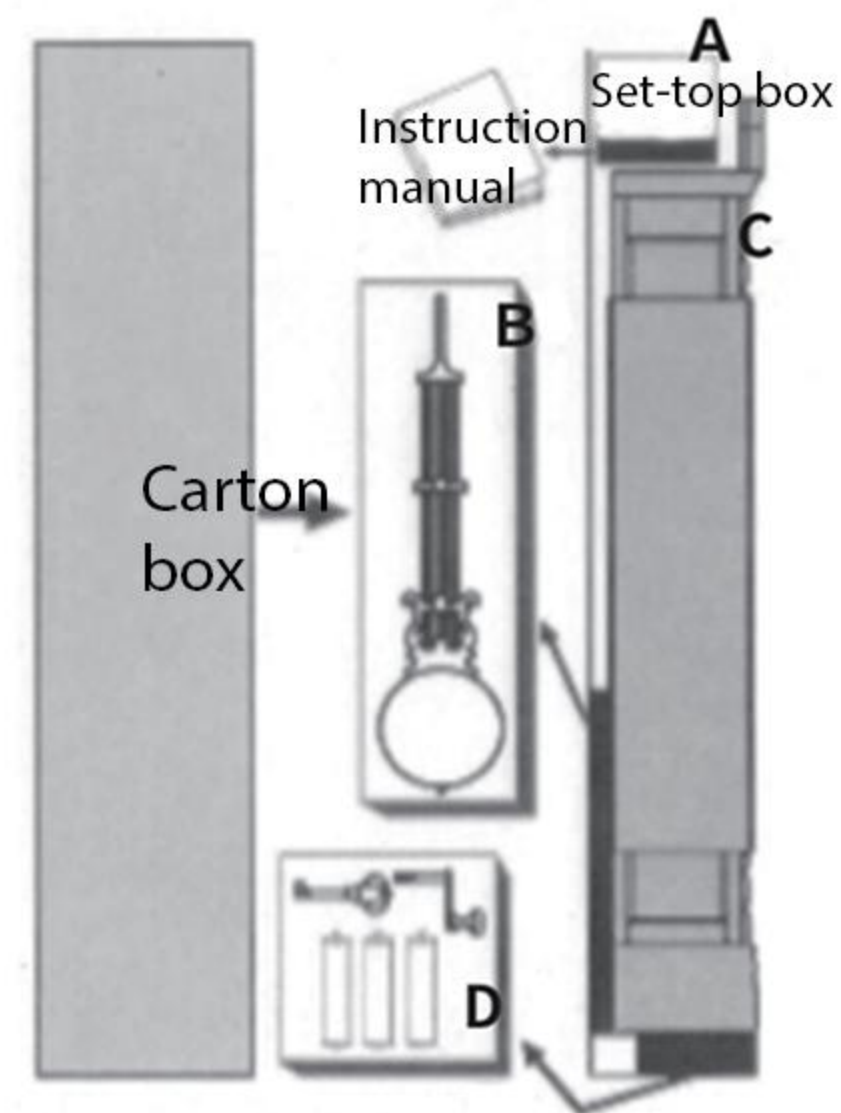

Figure 1
① Unboxing: First, remove the accessories (as shown in Figure 1): A - Instruction manual accessory box; B - Pendulum box; D - Bell hammer box. Then, take out C - Floor clock from the box and place it in the designated position.
② Remove the protective device: Open the clock door, loosen the chain bindings, and remove all the fixtures from between the tuning fork rod/lever pendulum rod and other components, such as rubber, cardboard, foam, etc.